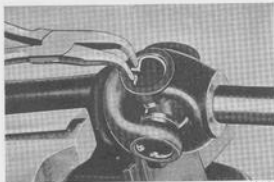

Fig. 4-139. Removing snap ring
1. Remove the snap rings which secure the needle bearings in the yokes, see Fig. 4-139.